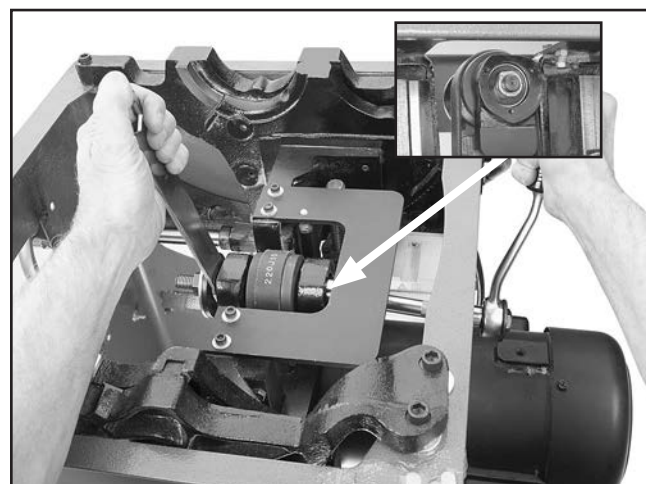

Figure 133. Removing arbor lock nut. (Inset: arbor lock nut.)
11. Place open end of arbor wrench on arbor, and while keeping arbor stationary, use a 25mm wrench to loosen and remove lock nut at other end of arbor, as shown in **Figure 133**.